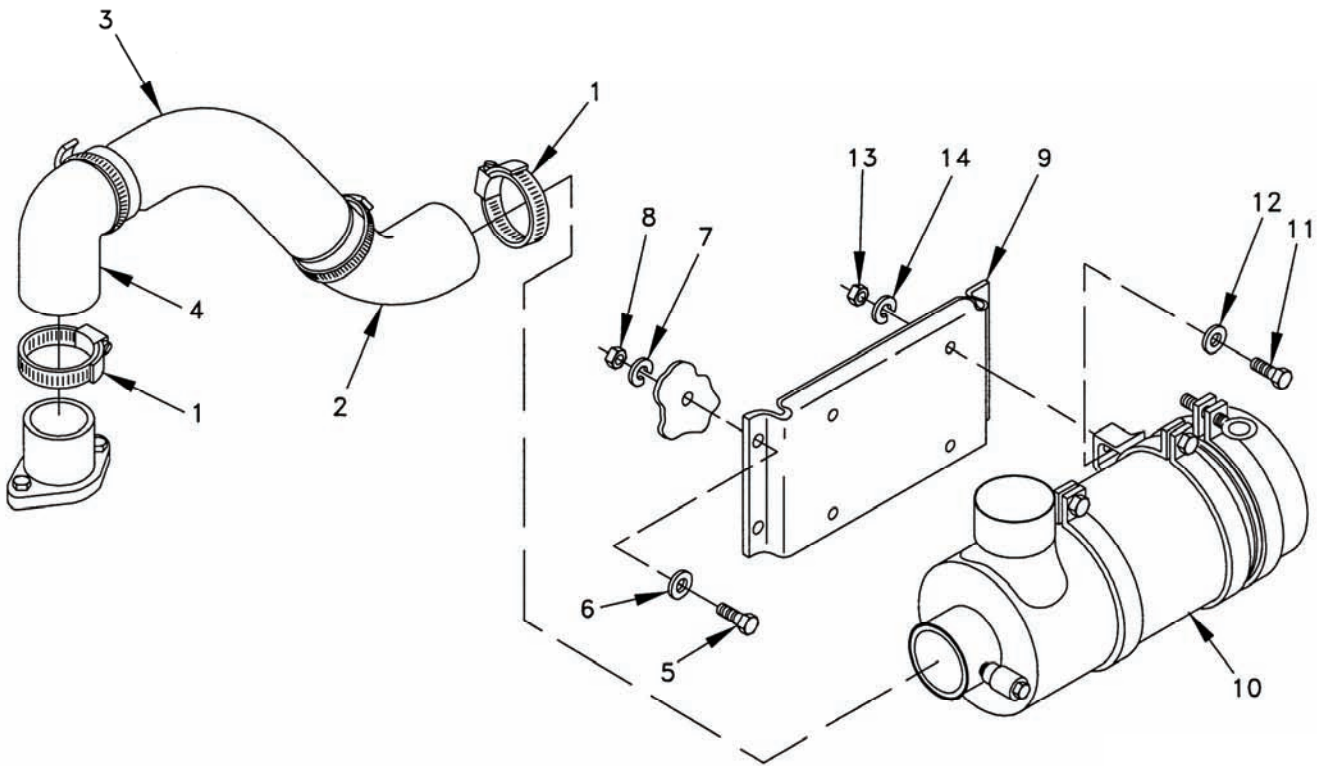

Figure 5-16. Air Intake Hose, Air Cleaner, and Bracket.
Loosen clamps (1, Figure 5-16) and remove air intake hoses (2, 3, and 4) as an assembly. Discard all removed items.
- a. Remove bolts (5, Figure 5-16), washers (6), lock washers (7), nuts (8), mounting bracket (9), and air cleaner assembly (10) from generator set. Discard lock washers (7).
- b. Remove bolts (11), washers (12), nuts (13), lock washers (14), and mounting bracket (9) from air cleaner assembly (10). Discard lock washers (14).